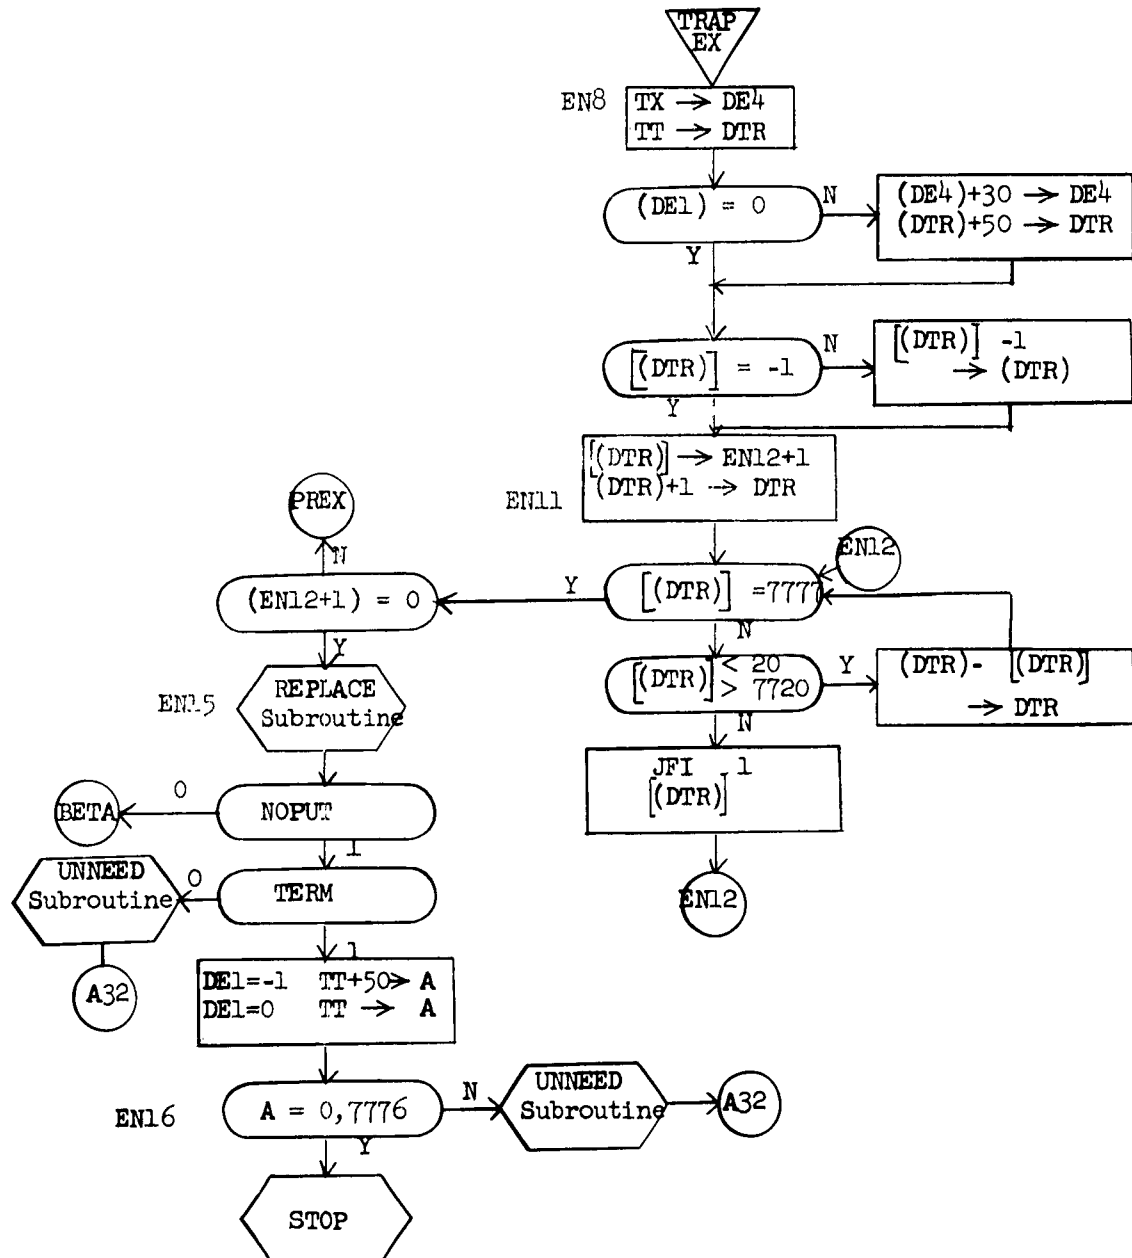

Figure 7.43 TRAP EX
7.4.1 TRAP Execution Section (Figure 7.43)